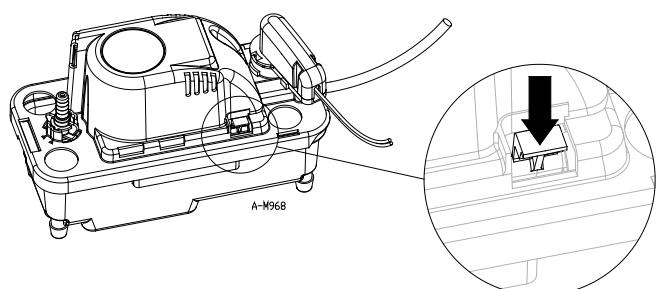

Fig. 8 (EN/FR/ES)
- Press lightly on the external test/run lever to engage the motor (Fig. 8).